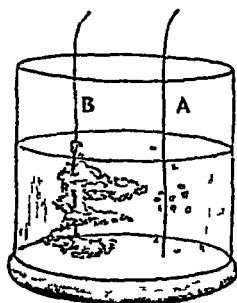

FIG 221
*Acetate of lead* (sugar of lead) —Lead, the metal, is deposited upon the negative electrode, while oxygen is liberated at the positive. The lead filament bridges between the electrodes, and then the electrolytic action ceases. Use lead electrodes, A B (fig 221)